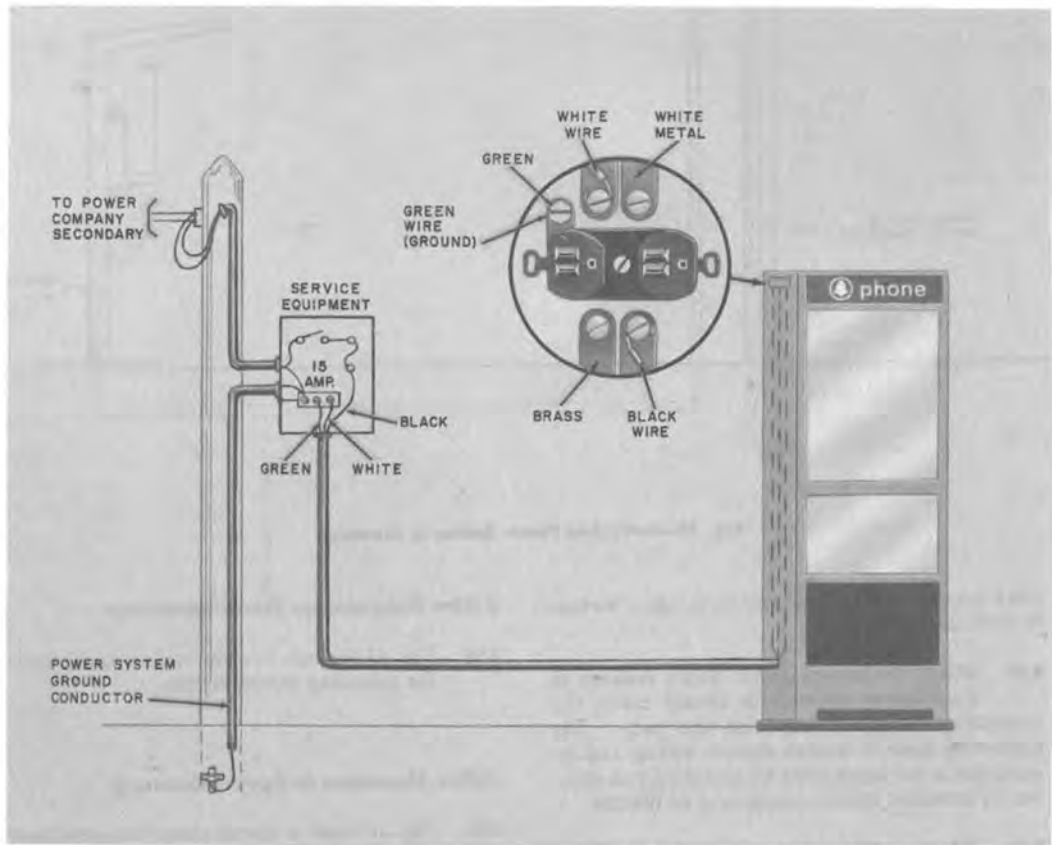

Fig. 9—Individual Power Source to Booth
7.01 Refer to Fig. 9 and 10 for this type service.